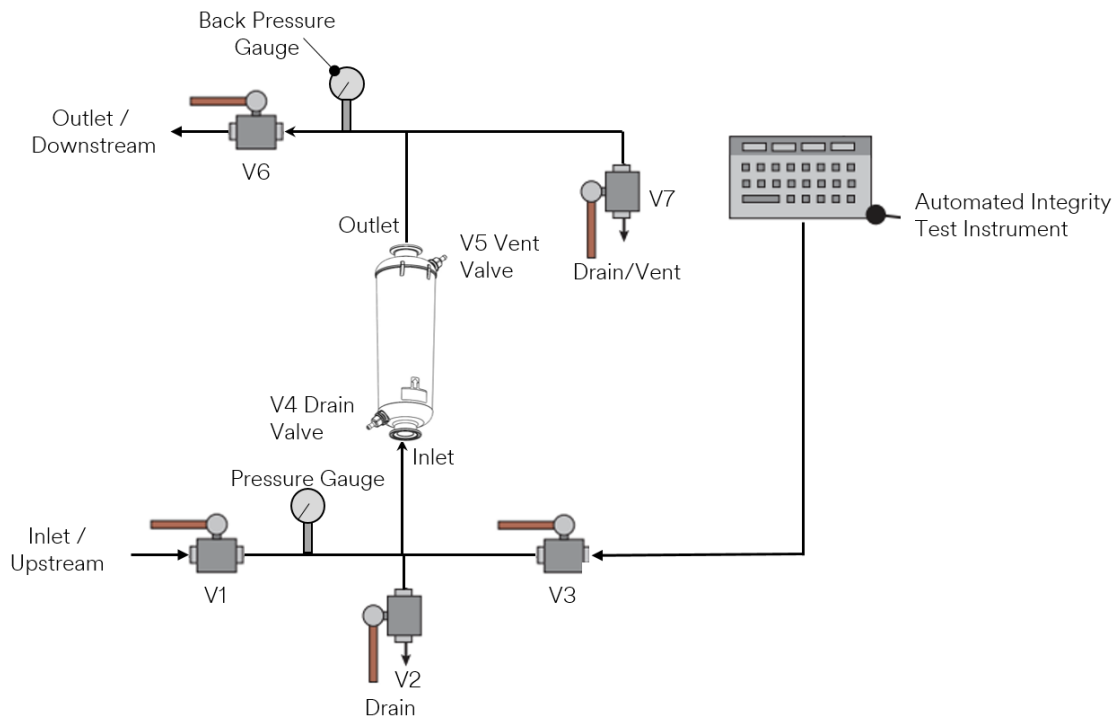

Figure 1. Capsule Connection and Flow Schematic
Refer to Figure 1 for the set-up configuration and valve descriptions.
- 1) Assemble the system as shown in Figure 1 with all valves in the closed position.